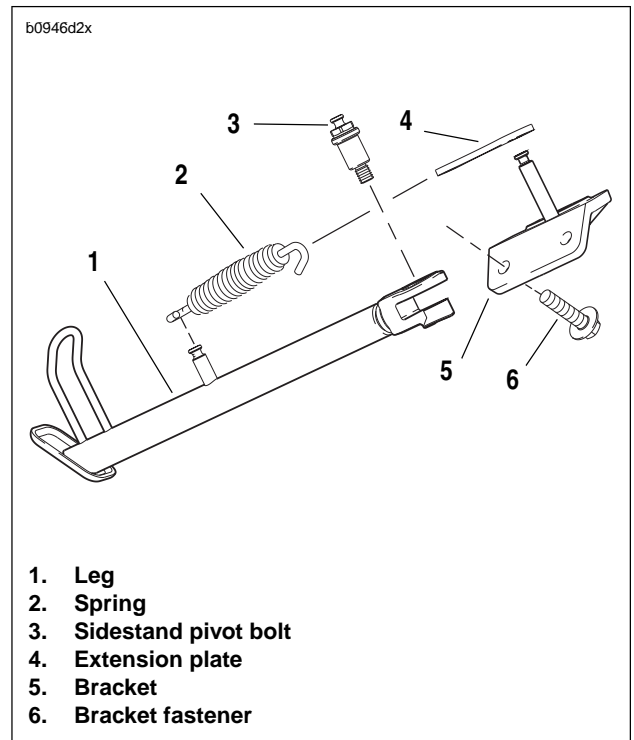

Figure 2-129. Sidestand Assembly
- c. See Figure 2-129. Install sidestand leg (1) and sidestand pivot bolt (3) tightening to 18-20 ft-lbs (24-27 Nm).
- e. Install spring extension plate (4) and sidestand spring (2) using SNAP-ON SPRING TOOL (Part No. HE-52B).